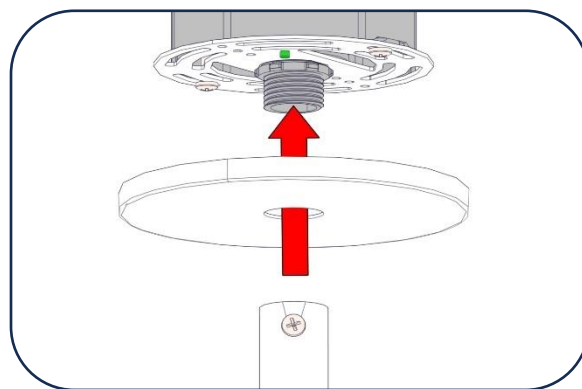

Figure 3
10. Secure Canopy C to the ceiling mount with the Stem. [Figure 3]